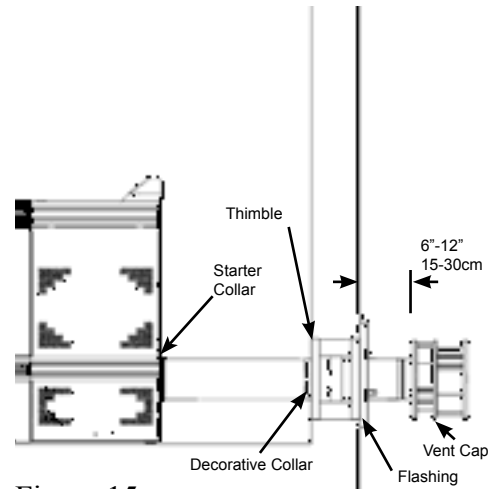

Figure 15
6. Anchor the pipe to the Horizontal Flashing with the three brackets using the self tapping sheet metal screws shipped with the flashing. The back/base of the cap is to extend 6 - 12 inches (15-30 cm) from the flashing. See Figures 15 and 17.